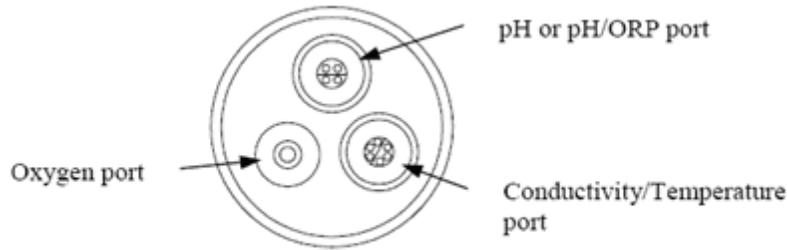

Figure 2. YSI 556 Probe Ports
The YSI 556 uses three different probes: a combined temperature/conductivity probe, a pH probe, and a dissolved oxygen (DO) probe. Each probe has its own connecting port, making it difficult to insert them incorrectly. An up-close look at the probe ports is provided in Figure 2.